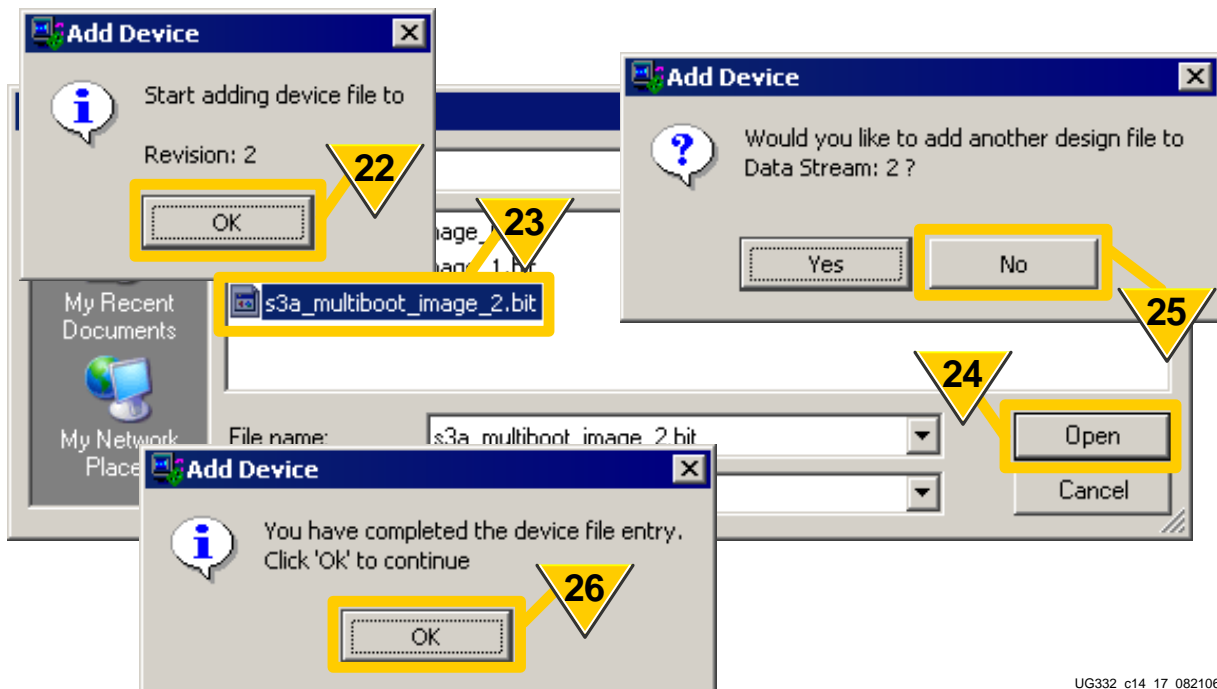

Figure 14-18: Select the Third MultiBoot Configuration Image
22. As shown in Figure 14-18, start adding the third FPGA configuration bitstream.